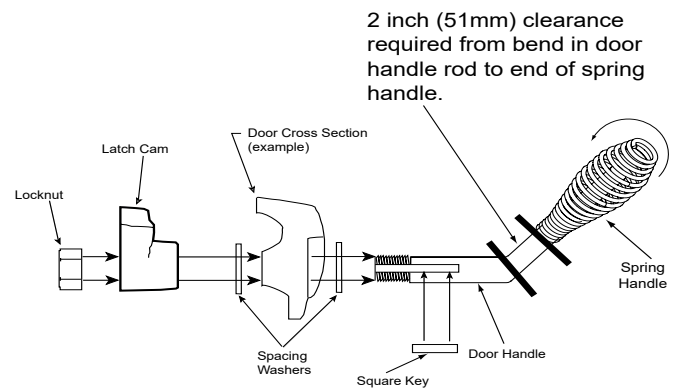

Figure 23.2
3. Install second washer(s) as shown in **Figure 23.2**.
7. Install spring handle turning in a counter-clockwise motion to **required** 2 inch (51mm) clearance location on door handle rod (Figure 23.2).